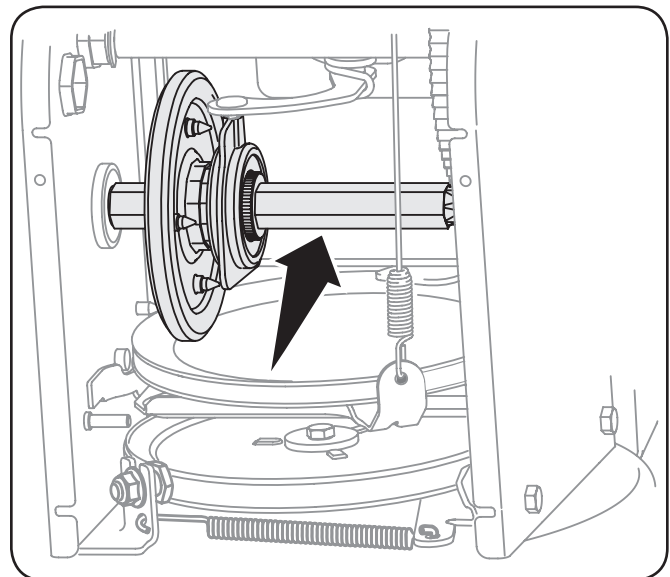

Figure 6-6
4. Apply a very light coating of engine oil (or 3-in-1 oil) to the hex shaft. See Figure 6-6.